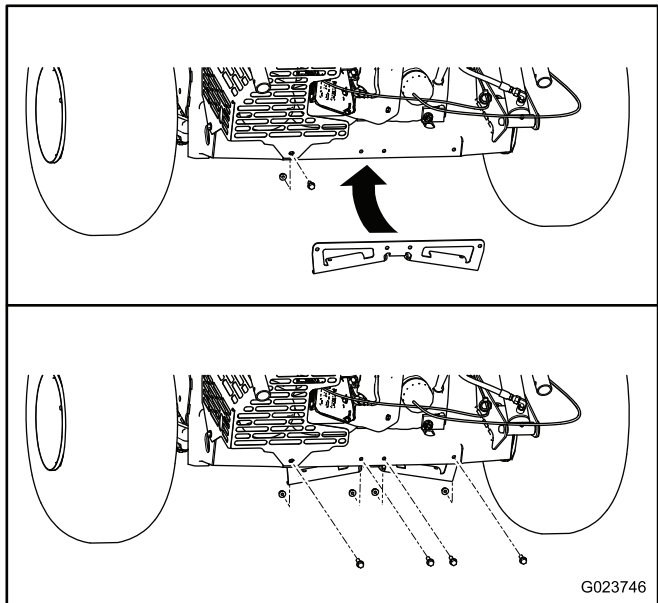

Figure 14
1. Remove the nut and the bolt securing the muffler shield to the back of the machine (Figure 14).
3. Secure the frame bracket with 4 bolts (5/16 x 1 inch) and 4 flange locknuts (5/16 inch); refer to Figure 14.